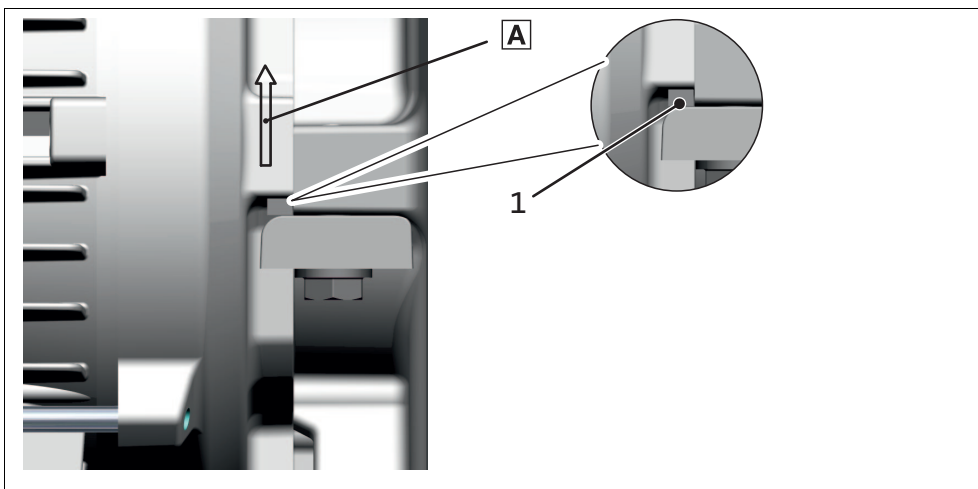

Fig. 6 Mounting on the opposite side (limit position of cam is flush)
3. If it is not possible to loosen the central thread manually yet, loosen the securing screw again and create some more space for loosening by, for instance, placing steel platelets with a thickness of 2-3 mm between the retaining clip or dismantling clip and the securing cam on the motor side, Fig. 6.